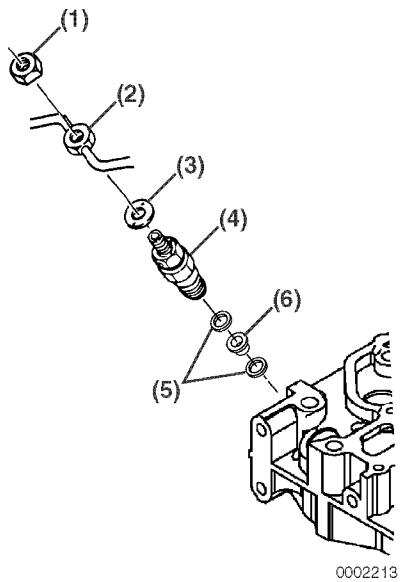

Figure 7-30
4. Remove nut (**Figure 7-30, (1)**). Remove the fuel return line (**Figure 7-30, (2)**) and copper washer (**Figure 7-30, (3)**) from the fuel injectors. *See Removal of Fuel Return Line on page 7-12.*
5. Remove the fuel injectors (**Figure 7-30, (4)**).
- 6. Remove the injector nozzle gaskets (Figure 7-30, (5)) and protector (Figure 7-30, (6)) from the cylinder head.